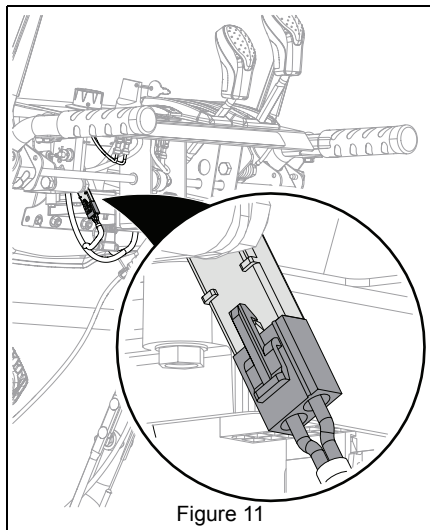

Figure 11
2. Ensure the EFI battery located under the control panel is connected and fully charged. See Figure 11.